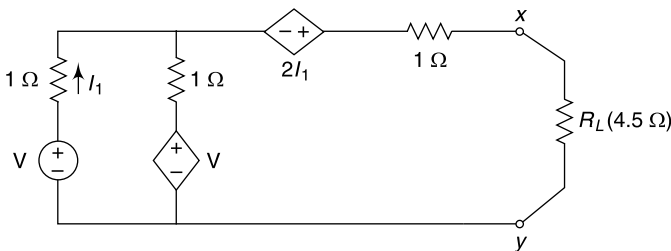

Fig. 4.168 Circuit of Ex. 4.137
4.137 In the network shown in Fig. 4.168, find the current through R_L . Assume $V = 5$ V.
Let us remove R_L from x-y terminals. In Fig. 4.168(a), in loop $abcd$,